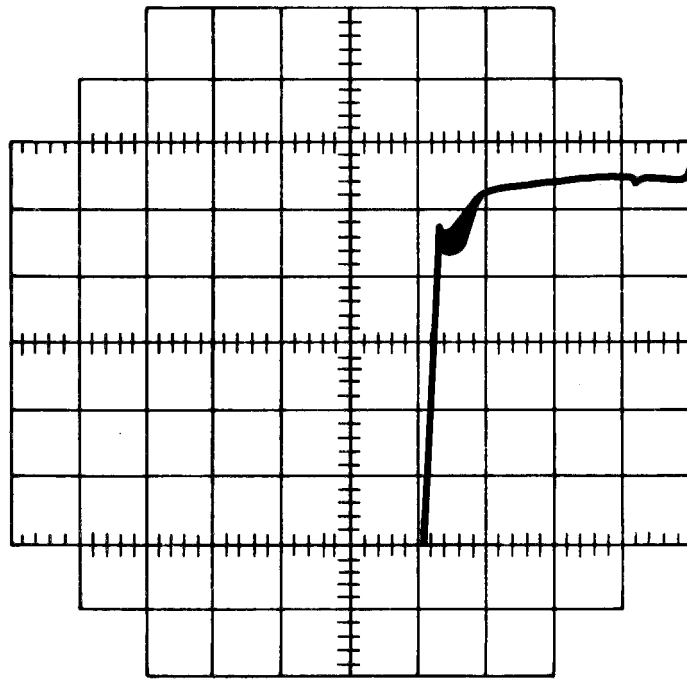

Figure 4-17. Slope of "Beat Frequency Notch"
- bb. Slowly adjust FREQUENCY dial about the 0.5 MHz point to position slope of "beat frequency notch" near center of oscilloscope trace as shown in figure 4-17.